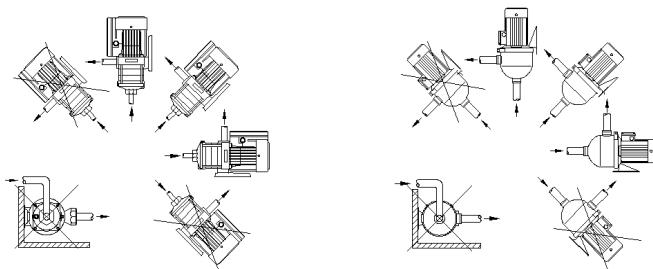

Fig. 1
- The pump may be installed as shown in Fig. 1